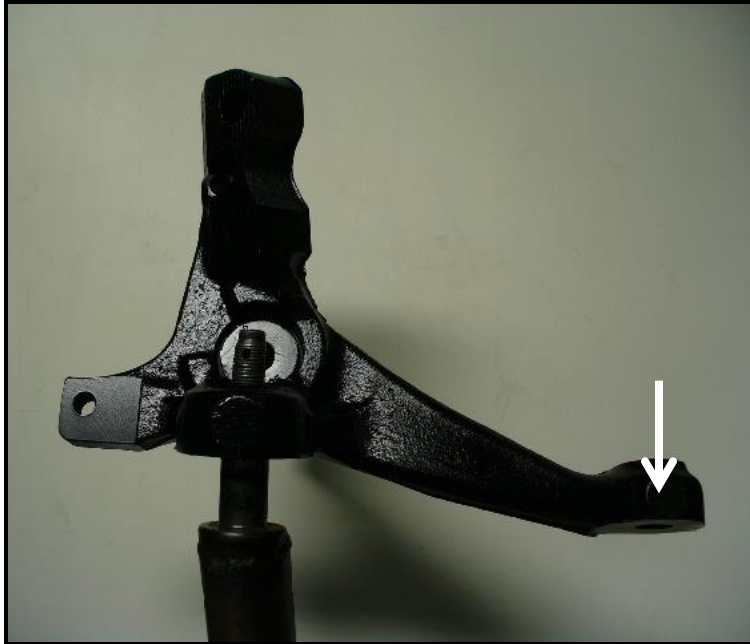

Figure 2: Strike tie rod end boss with large hammer (indicated by arrow)
3. With a large (4 lb) hammer, strike the spindle at the tie rod end boss to dislodge the tapered pin. **Do not** use a pickle fork as this will destroy the boots. Remove the nut and swing the tie rod out of the way. See Figure 2 for reference.
Note: The spindle in Figures 2 and 3 is shown without any brake components for clarity of instructions. Do not disassemble the components as the corner can be mounted complete.